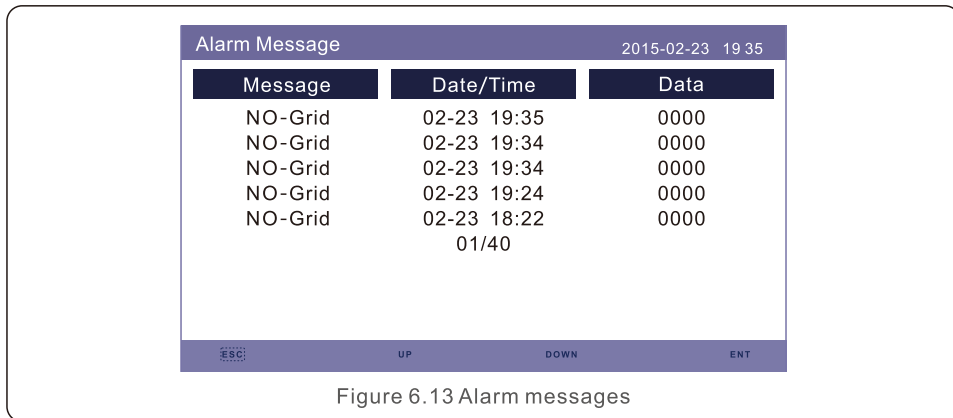

Figure 6.13 Alarm messages
The display shows the last ten (10) or less alarm messages (see Figure 6.13). Screens can be scrolled manually by pressing the UP or DOWN key.